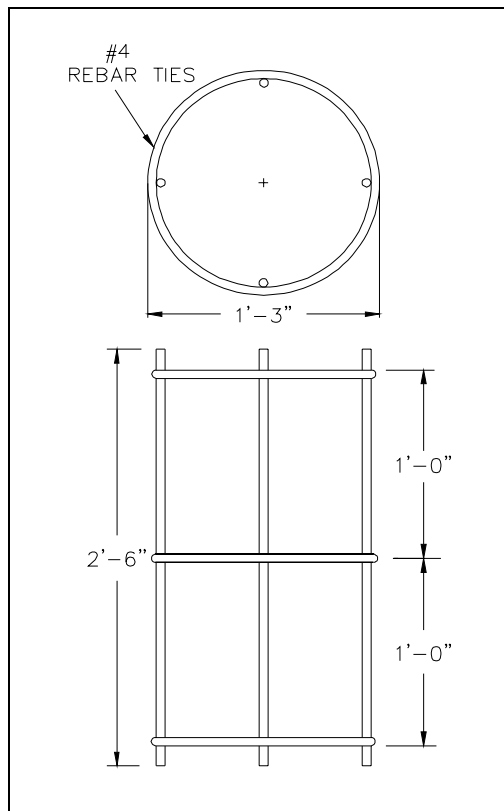

Figure 2. Reinforcement Cage
2. Place the two remaining horizontal members 12 inches from that center point. See Figure 2. The top of the cage should be 3 inches below the top of the pier.
3. The reinforcement cage in Figure 2 shows the maximum diameter that is suitable for a customer-provided 18-inch sonotube.